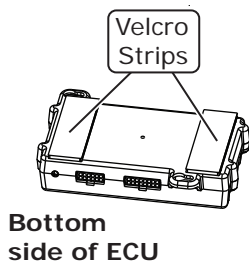

Figure 3
4. Add a bead of silicone around the back side of the firewall cover as shown in Figure 3, below.
3. Apply (2) strips of Velcro to the bottom of the ECU as shown in Figure 3, below.